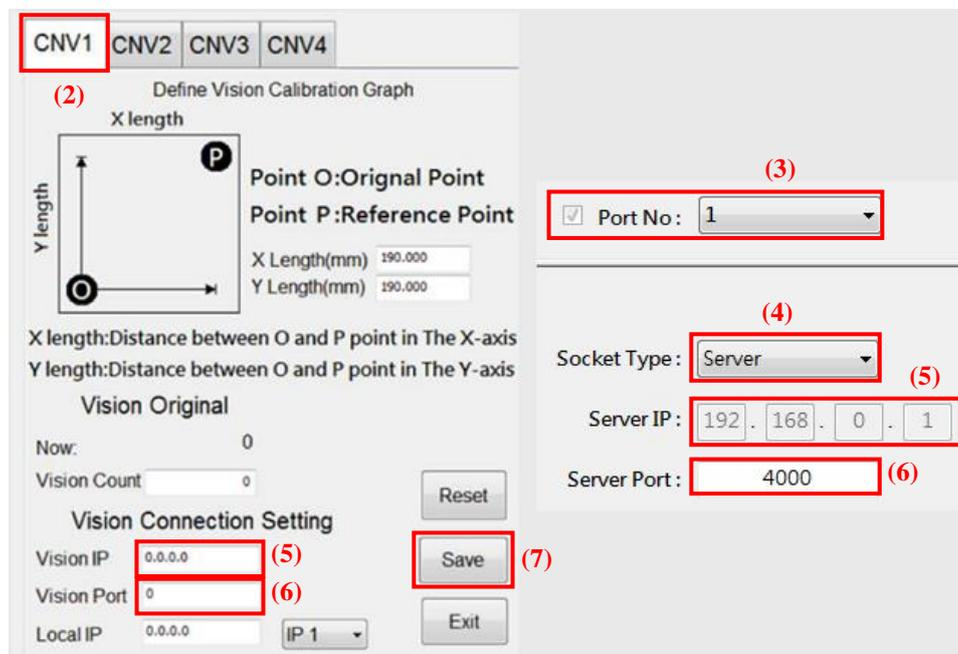

Figure 10-4 Send communication port interface setting (left: robot arm, right: vision system)
- (1). As shown in Figure 10-4, in the robot system software, click "Main Menu > Track > Vision Setting" (left side).
- (2). Click the conveyor label number tab you want to use.
- (3). Select the number of the communication station to be connected and enable it.
- (4). Select "Server" for "Socket Type" (on the right).
- (5). Fill in "192.168.0.2" for "Vision IP" (on the left). "Server IP" (on the right) remains unset.
- (6). "Vision Port" (left side) is filled in with the same setting as "Server Port" (on the right).
- (7). Press the "Save" button to save the settings.